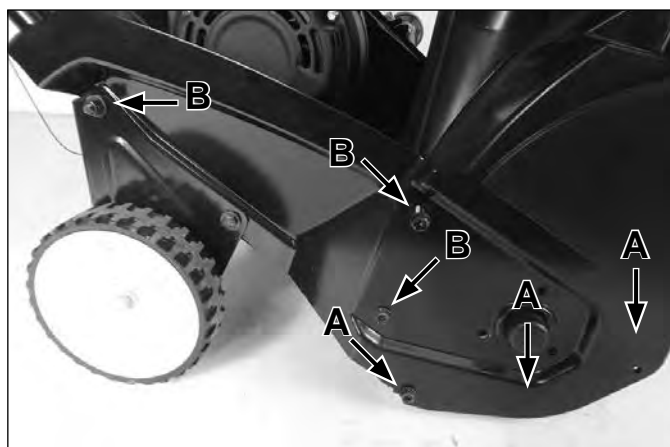

Fig. 008
4. Remove three bolts holding the side plate to the rotor housing (A). Loosen the wheel bracket bolts (B) (Fig. 008).